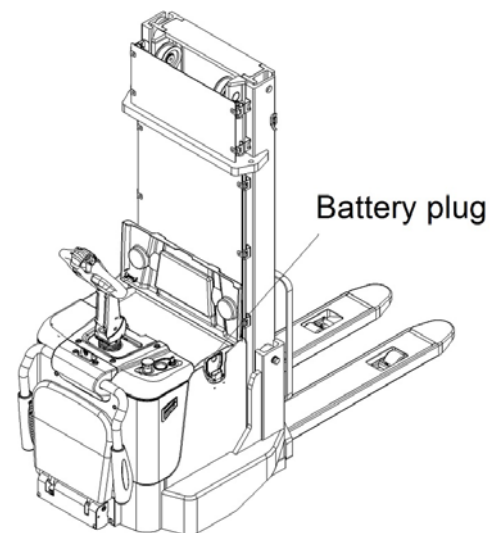

Fig.14: Battery charging
Park the truck securely and switch off the stacker with the key (18) and activate the emergency button (20). Open the battery cover and pull out the hinge. Then remove the battery cover, unscrew and remove the battery fixing plate, pull out the battery plug (Fig.14), and take the batteries out with a crane. The installation is in the reverse order of the removal. Please connect the positive terminals firstly. Otherwise the truck could be damaged.